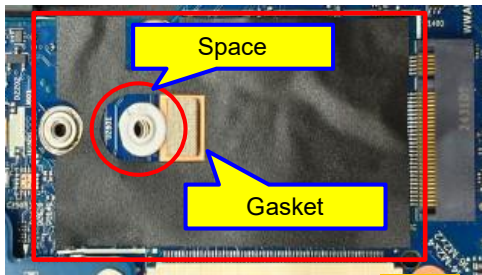

Figure 1
1. Take anti-short Mylar. (Figure 1)